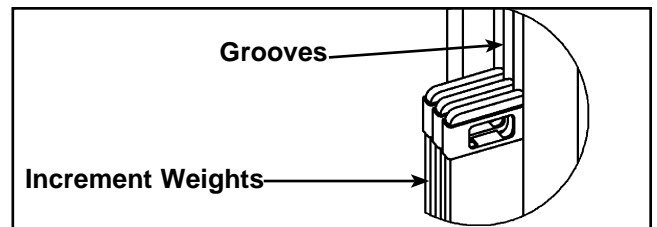

Figure 10
- I. Reinstall the six increment weights that were removed in step 6B. See Figure 10.